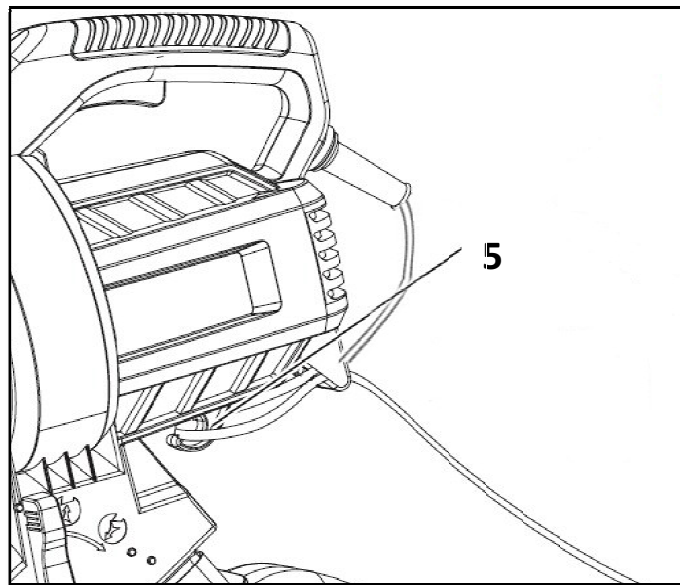

Fig. 4
1. Double the cord back, about a foot from the end and lead the loop through the hole on the motor unit. Pull it over the cord retainer (5) and gently tug on the cord to ensure that it is firmly secured (Figs. 4).